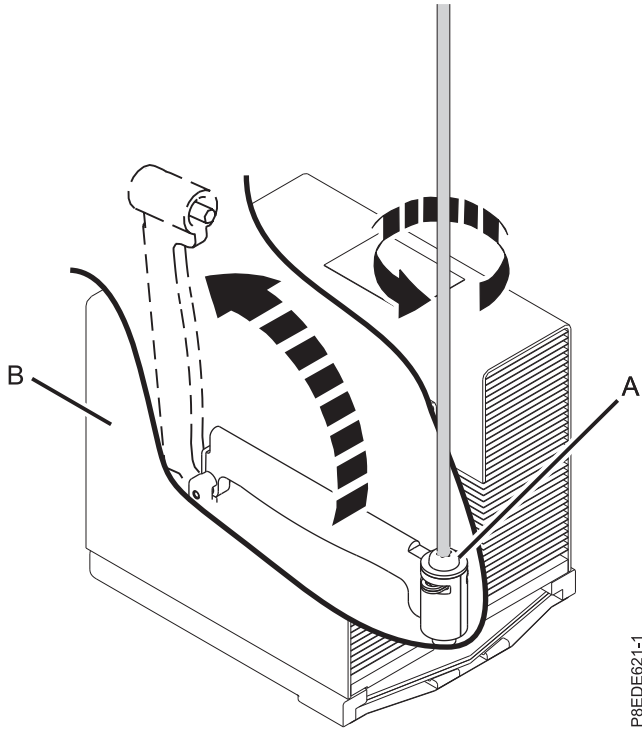

Figure 5. Loosening heat sink load arm screw
6. Loosen the load arm screw **(A)** of the system processor heat sink **(B)** that you are removing with the supplied T-handle T20 Torx driver (part number 00LR425). The load arm pivots up in the direction that is shown in Figure 5 on page 8.